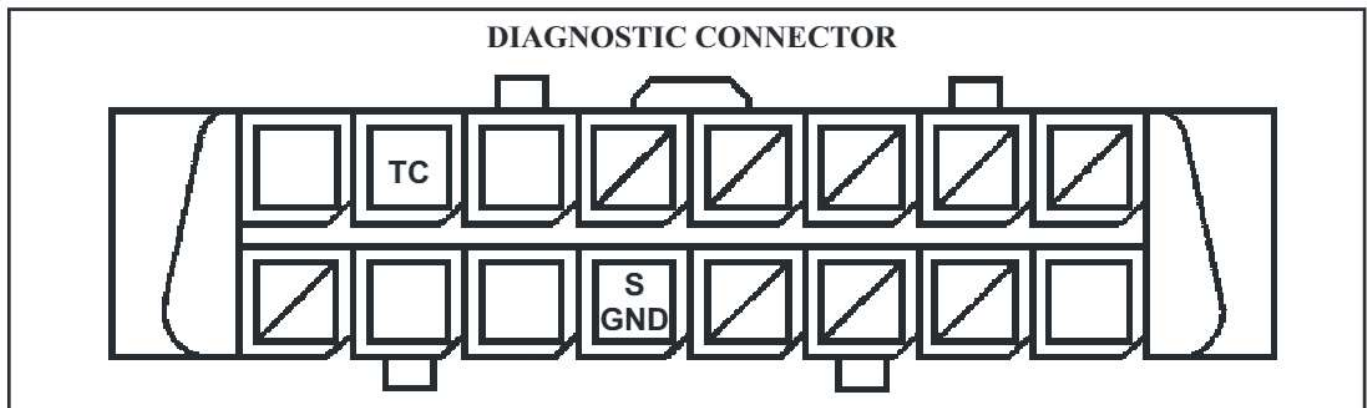

Figure 77
- 1 - Using a jumper lead, jump diagnostic connector terminals TC and SGND as shown below in Figure 77.
- 6 - Using the jumper lead, reconnect Diagnostic Connector terminals TC and SGND as seen in Figure 77.